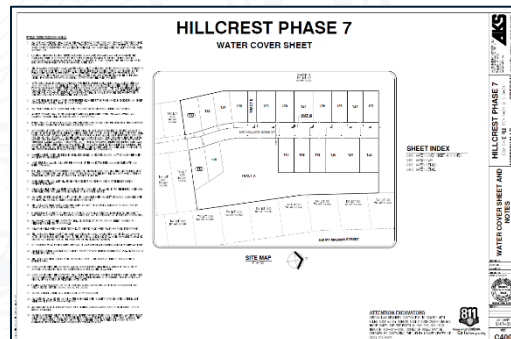

Figure 1: Water Line-Sewer Line Separation
- (9) Crossings-Sanitary sewers and water lines:
- In situations involving a water line parallel to a sewer main or sewer lateral, the separation between the two shall be as indicated in Figure 1;
- Where the water line crosses under the sewer line, the water supplier shall expose the sewer line and examine it as indicated in paragraph (9)(c)(B) of this rule. If conditions are favorable and there is no evidence of leakage from the sewer line, the sewer line may be left in place, but special precautions must be taken to assure that the backfill material over the water line in the vicinity of the crossing is thoroughly tamped in order to prevent settlement which could result in the leakage of sewage. In this situation, the water supplier must center one length of the water line at the crossing and must prepare a written report recording the manner in which the sewer line was supported at the crossing and the material and methods used in backfilling and tamping to prevent settlement of the sewer. If the water supplier determines that conditions are not favorable or finds evidence of leakage from the sewer line, the provisions of paragraph (9)(c)(B) of this rule apply.